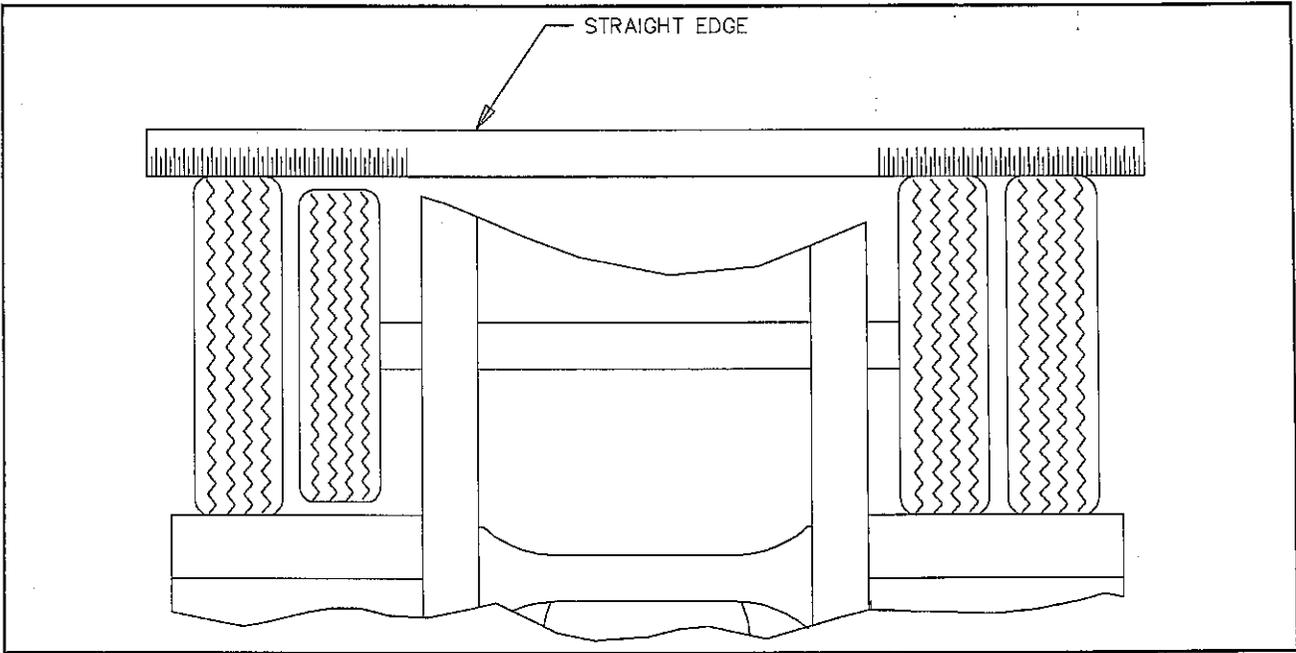

Figure 4-11 Straight Edge Method
b. Straight Edge or String Method: (This method can not be used if tire and wheel assemblies are not mounted on the axle.) Jack trailer up until the wheels are off of the ground. Hold a straight edge against the tires of both ends of an axle. A gap at one tire indicates a smaller tire. A maximum of $1/8$ " gap is allowed (See **Figure 4-11**).